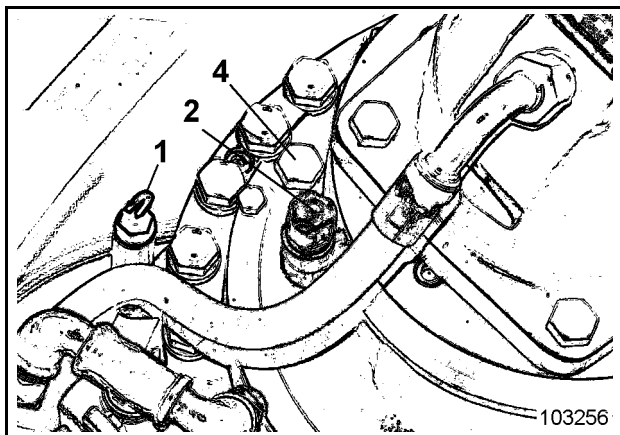

Fig. 3-95:
- Unscrew plug (4, Fig. 3-95:) and fill in new oil.
- Check oil level with dipstick (1, Fig. 3-95:).
- Screw in plug (4) again.
The gearbox is vented through breather filter (2, Fig. 3-95:).